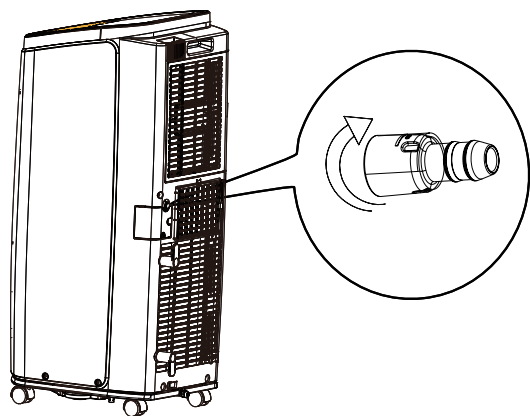

Fig.8
- (2) Screw the drain connector to(included in the package) the spout by turning clockwise.(As show in Fig.8)